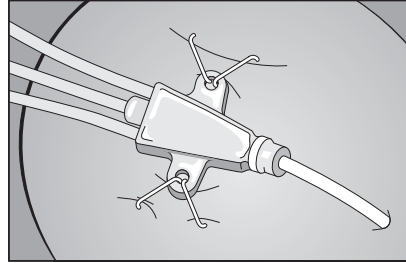

Figure 2
4. Firmly squeeze anchoring device together to close staple and secure catheter to skin (refer to Figure 2).